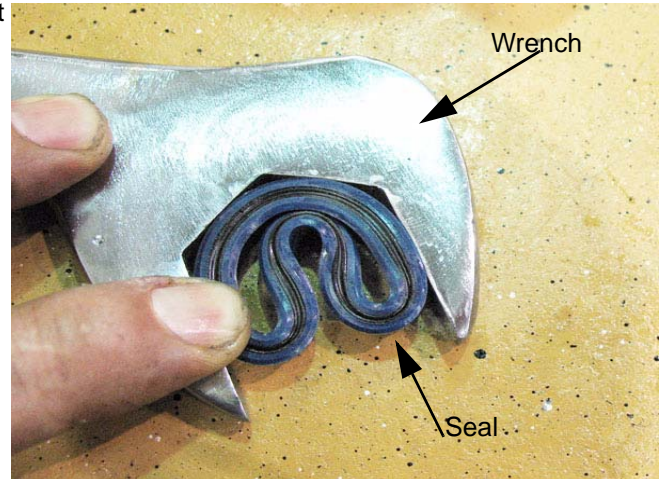

Figure 5.28
- 3.26. Compress the new seal into the jaw of a 1-1/4" open-end wrench. See Figure 5.28.